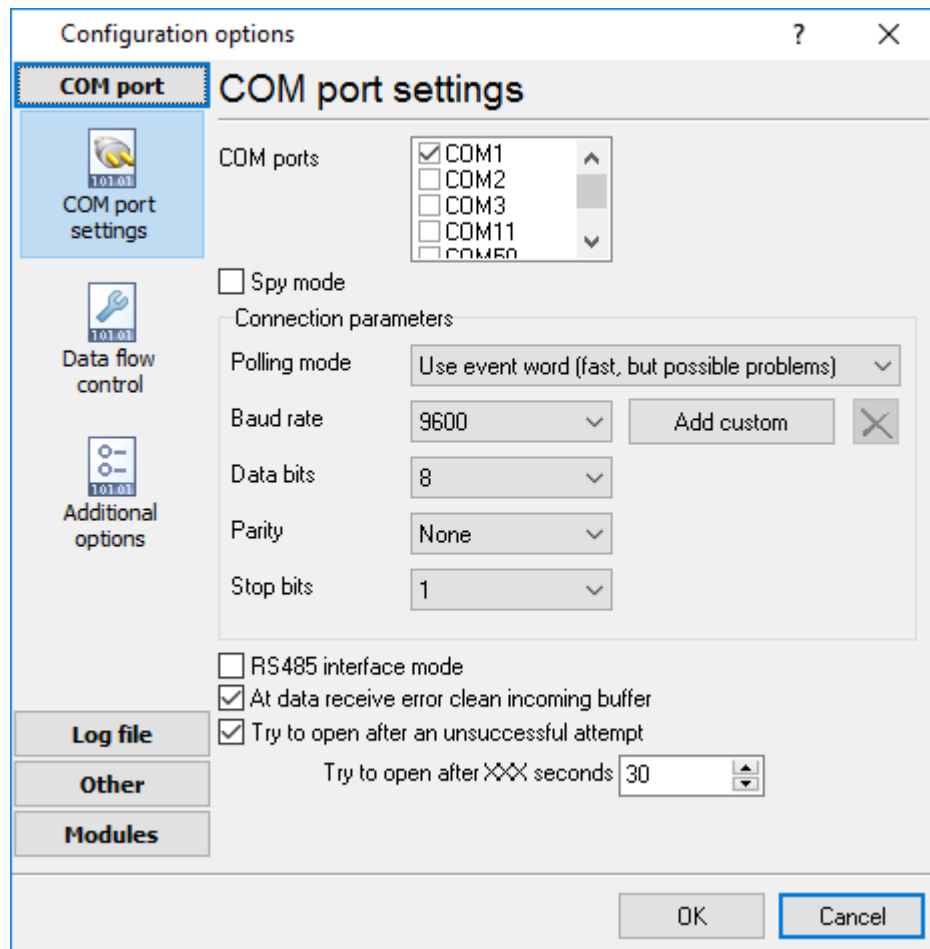

Fig. 2.9.1 Data transfer options
2. If the modem is connected to the COM port, you should specify the correct data transfer parameters (speed, data bits, etc.) (fig. 2.9.1)